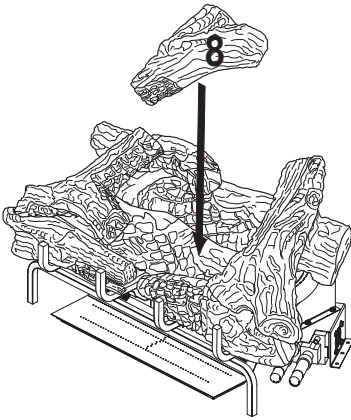

Figure 35- Installing Log # 8
8. Match the round hole on the bottom of the center crossover log (#8) with the metal pin on the top of the right crossover log. Rest the front of the center crossover log on top of the front right log and against the grate. See Figure 35, page 21.